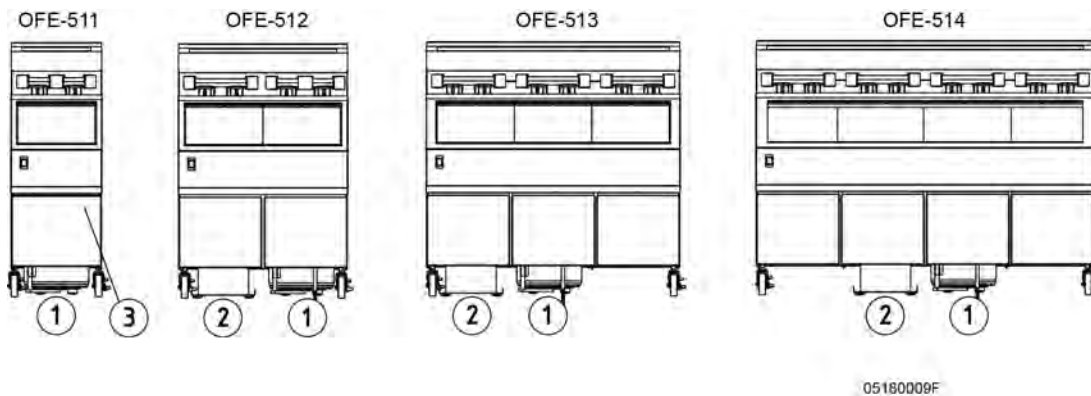
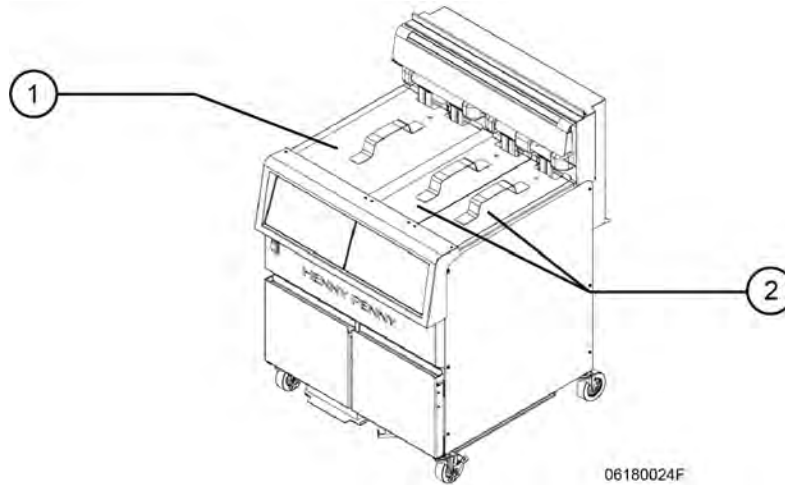

Figure 1-1 F5 models
Figure 1-2 Full and split vat
The F5 is available in the four models shown in Figure 1-1 F5 models, page 1 and can be ordered with either full (1) or split vats (2) as shown in Figure 1-2 Full and split vat, page 2.
INFO: Refer to Figure 1-1 F5 models, page 1 for the location of the filter pan, JIB, or oil reservoir specific to your F5 model.